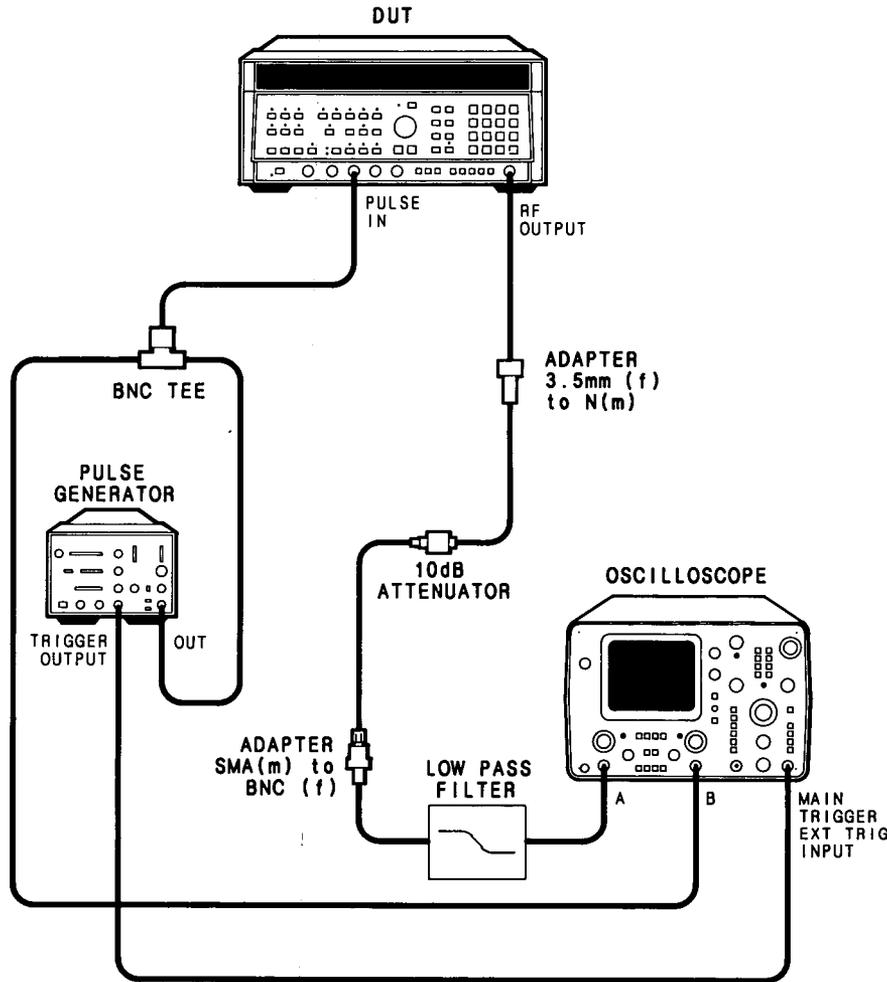

Figure 4-16. Pulse Modulation Video Feedthrough Test Setup
1. Connect equipment as shown in Figure 4-16. Attach the BNC tee directly to the DUT's PULSE input connector. Allow a one hour warm up time.